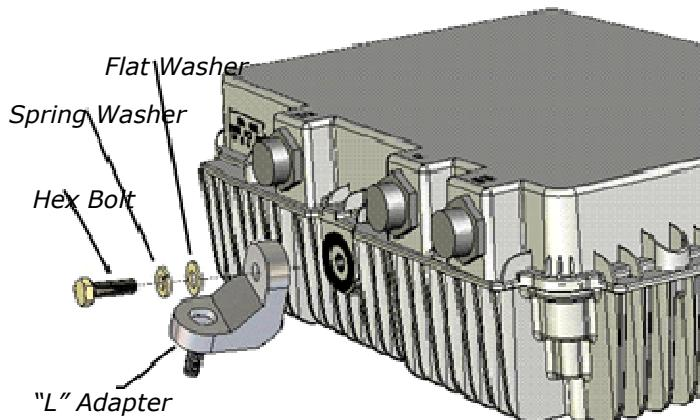

Figure 3. Mount 'L' Assembly
- Attach the 'L' adapter to the GoBeam 5100/6100 using an M8x25 hex bolt [G], a spring washer [I], and a flat washer [H], as illustrated in Figure 3.